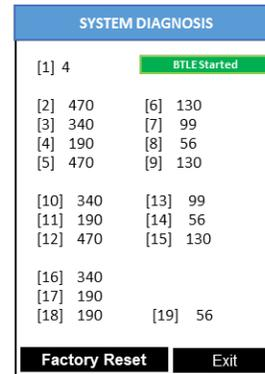

Figure 9.
Press **Diagnosis** () to launch the **SYSTEM DIAGNOSIS** screen where raw measurement data are displayed (Figure 9). The information has no use for normal operation, but instead is used for device troubleshooting. Provide an image of both the **DEVICE INFORMATION** screen and the **SYSTEM DIAGNOSIS** screen when you contact Pyxis (service@pyxis-lab.com) for troubleshooting your device or call +1 (866) 203-8397.
4. Allow 5–10 seconds for the message in the top-right corner of the display change from **Starting BTLE...** to **BTLE Started** (Figure 9).